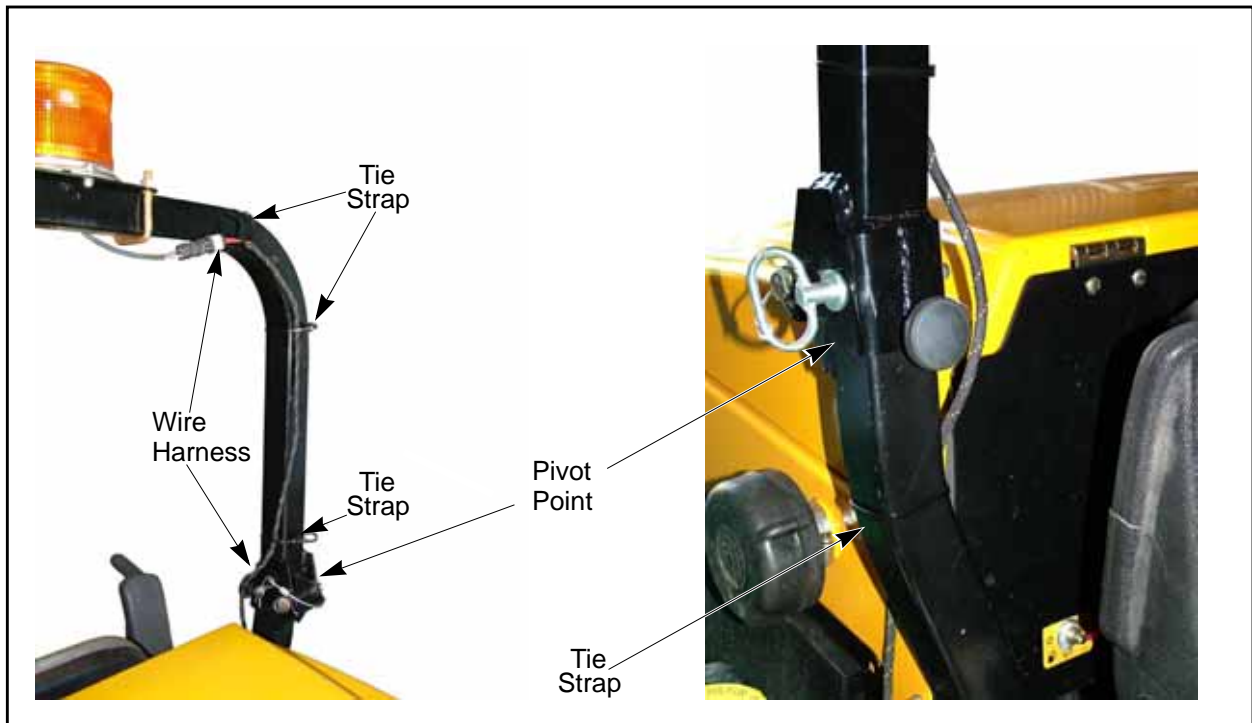

Fig. 3
4. Plug the caution light fixture into the wire harness. Tie the wire harness to the ROPS in the specified locations. Route the wire harness down the right side ROPS post. Leave slack in the harness at the ROPS pivot joint. Fig. 3